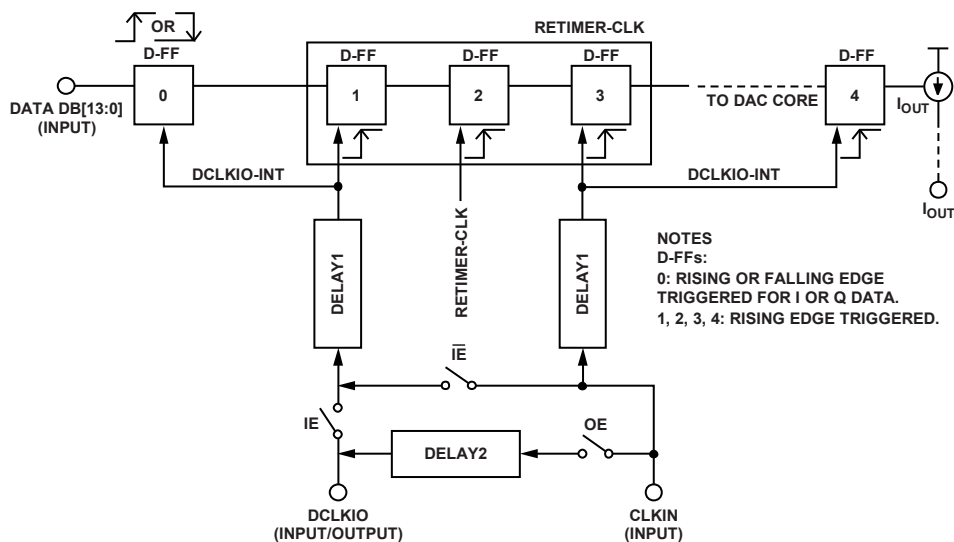

Figure 81. Simplified Diagram of AD9114/AD9115/AD9116/AD9117 Timing
Figure 81 is a simplified diagram of the entire data capture system in the AD9114/AD9115/AD9116/AD9117. The double data rate input data, DB[13:0], is latched at the pads/pins either on the rising edge or the falling edge of the DCLKIO-INT clock, as determined by IRISING, the SPI bit. IFIRST, the SPI bit, determines which channel data is latched first (that is, I or Q). The captured data is then retimed to the internal clock (CLKIN-INT) in the retimer block before being sent to the final analog DAC core (D-FF (4)), which controls the current steering output switches. All delay blocks depicted in Figure 81 are noninverting, and any wires without an explicit delay block can be assumed to have no delay for the purpose of understanding.
Only one channel is shown in Figure 81 with the DATA pads (DB[13:0]) serving as double data rate pads for both channels.